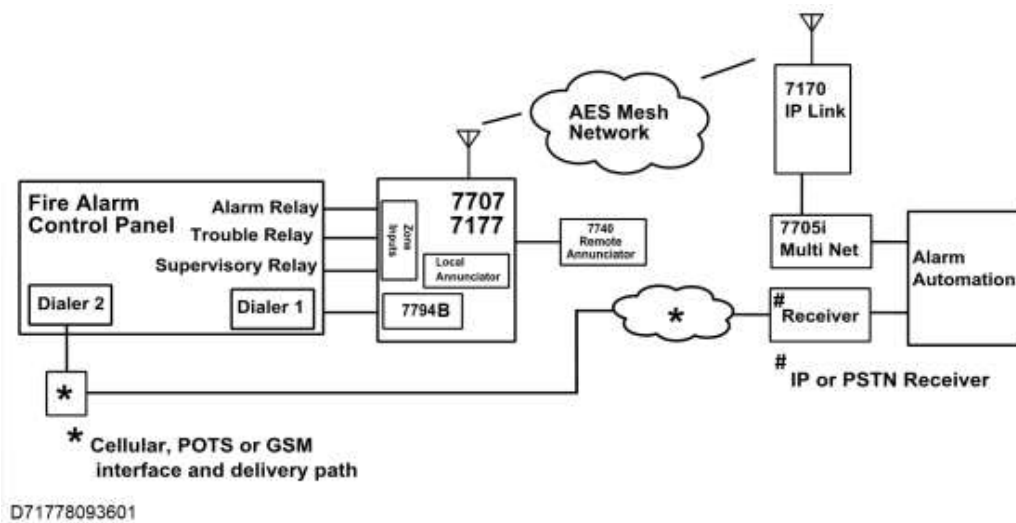

Figure 8. Canada/Dual Dialer Installation
3. Wire the Zones of the FACP (Alarm, Trouble, Supervision) into the 7707 or 7177 as shown above in Figure 8.